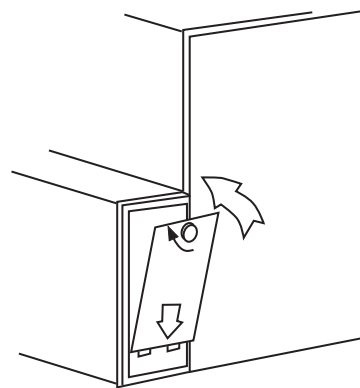

Fig. 18 - Replace Side Filter Cabinet Door
7. Replace filter cabinet door. (See Fig. 18 and 19.)